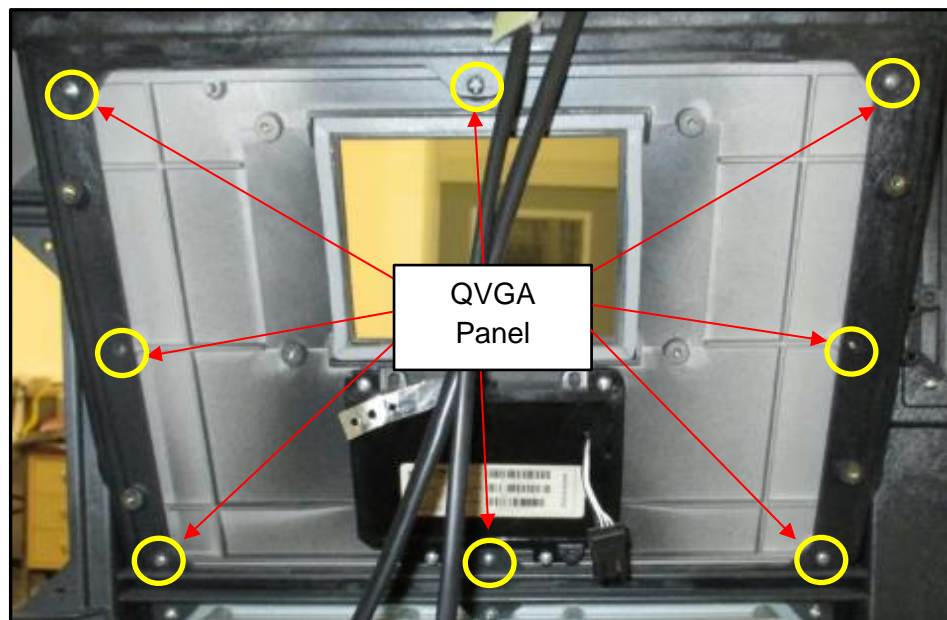

Fig 12 – QVGA Panel and customer keypad after retainer removal
- 3) Remove and discard the eight #8 screws fastening the QVGA Panel to the dispenser door and remove the panel from the dispenser door. The Panel can be discarded. It will not be re-installed. (Fig 12 & 13)